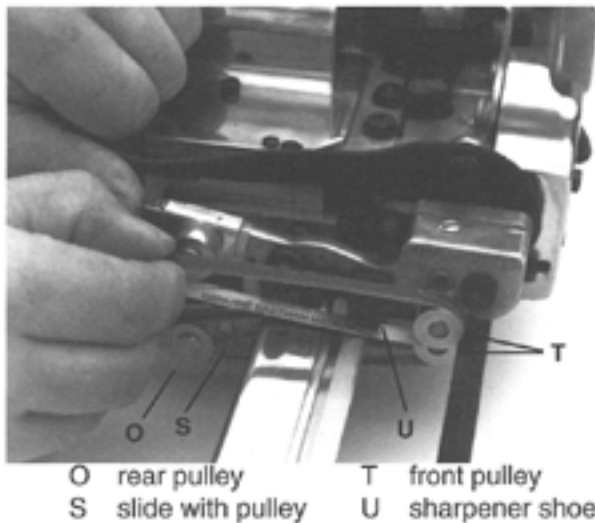

Figure 5. Changing the Sharpener Belts
1. Push the slide with pulley (Figure 5, S) inward to relieve tension, then remove the worn belt.
2. Place the new belt over the front pulley (Figure 5, T), then between the sharpener shoe (Figure 5, U), and then over the rear pulley (Figure 5, O).